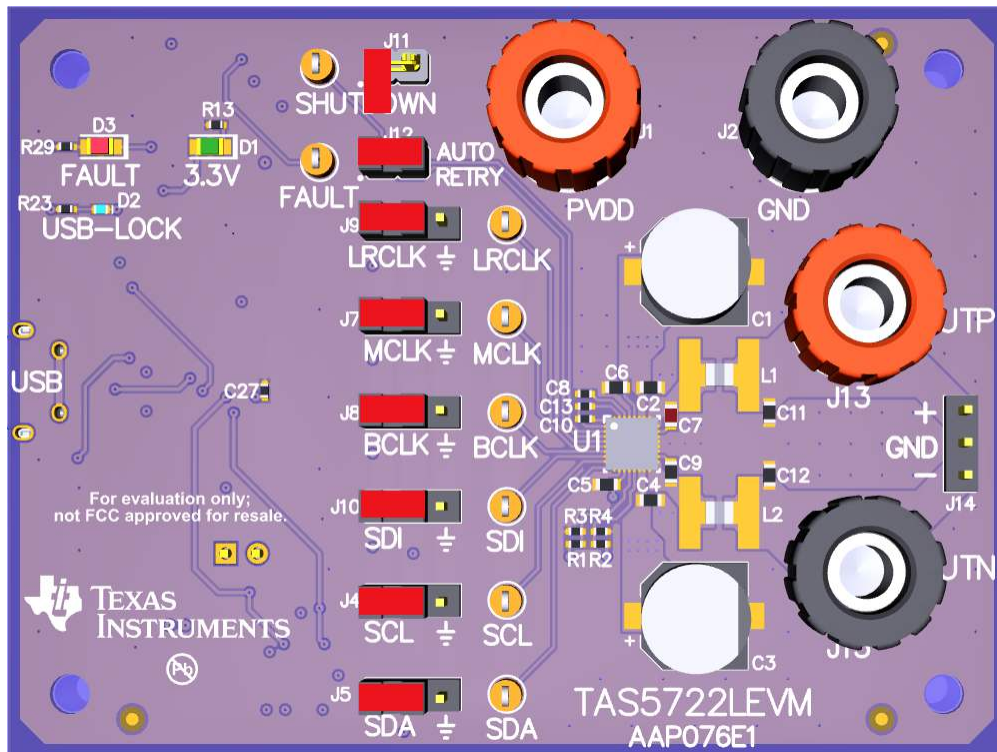
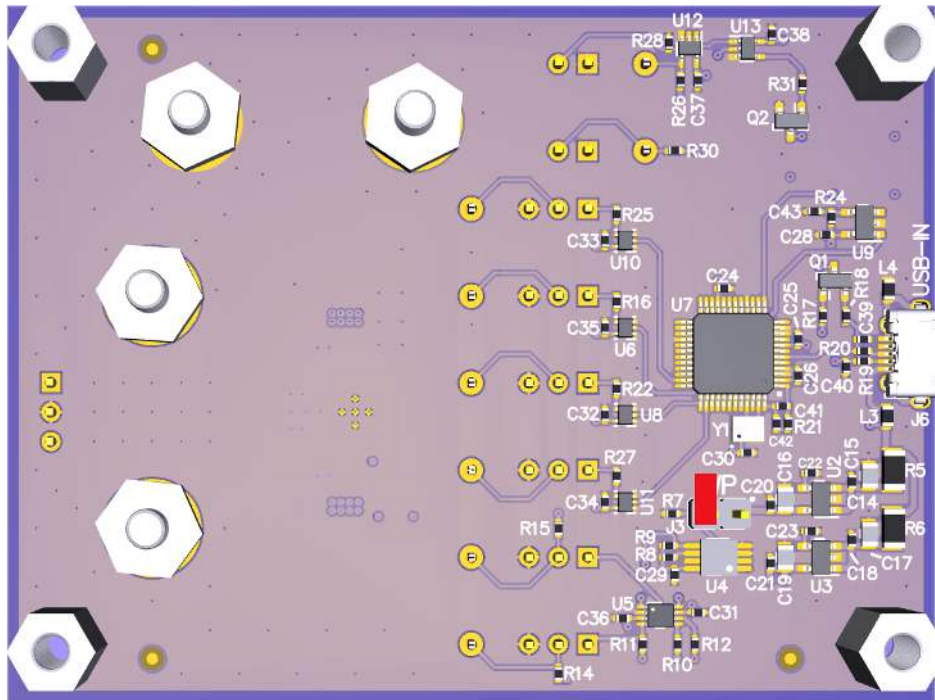

Figure 2. Default Jumper Configurations (Top Side)
Figure 3. Default Jumper Configurations (Bottom Side)
- Step 1. Make sure all the jumpers are set according to Table 1 and Figure 2 and Figure 3.